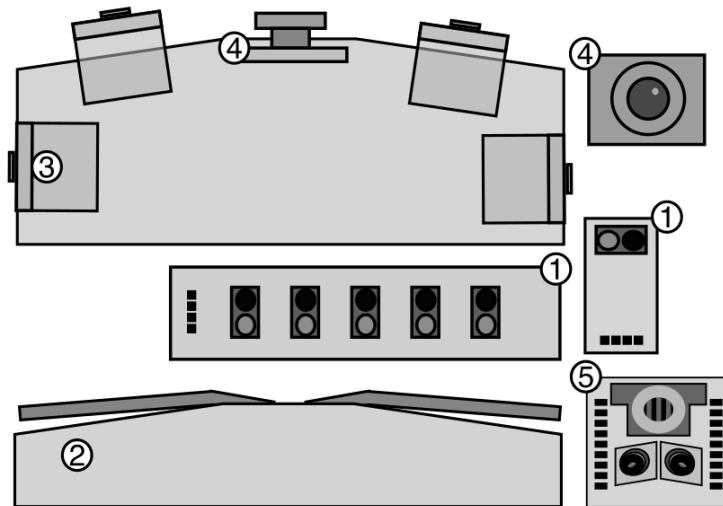

Figure 14.2 – Robot sensor extensions
1. **Line detectors or reflectance sensors:** These light up with an **Infrared (IR)** LED and then detect how much light reflects from an object that they point toward, or how bright/dark it is. Makers mount these under the robot as a line-following sensor. Some sensors, such as the *SunFounder 5-channel line sensor*, come with arrays of light detectors, which can be used with code to follow a line drawn on a floor. An example of a single sensor type is a TCRT5000.
5. **LIDAR sensors:** These scan and return the depths of objects in their field of view. Having many distance sensors could extend the accuracy of Monte Carlo simulation. However, these produce a lot of data quickly and may need a more powerful CPU to control them. Solid-state sensors are low-power, small, and cheap. Pictured in *Figure 14.2* is an LDRobot LD-07 solid-state LIDAR.